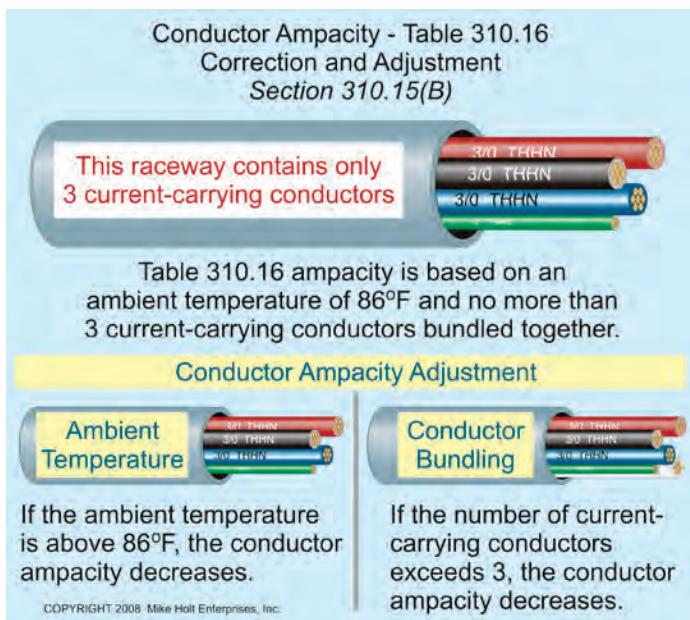

Figure 310–8
(B) Ampacity Table. The allowable conductor ampacities listed in Table 310.16 are based on conditions where the ambient temperature isn't over 86°F, and no more than three current-carrying conductors are bundled together. **Figure 310–8**
(a) Conductor Bundle. Where the number of current-carrying conductors in a raceway or cable exceeds three, or where single conductors or multiconductor cables are installed without maintaining spacing for a continuous length longer than 24 in., the allowable ampacity of each conductor, as listed in Table 310.16, must be adjusted in accordance with the adjustment factors contained in Table 310.15(B)(2)(a). **Figure 310–9**